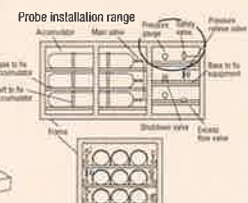

Fig 2 Example of Installation at Piping Module of Accumulators, etc.
- d. One or more on the upper piping module of accumulator (see Fig.2);